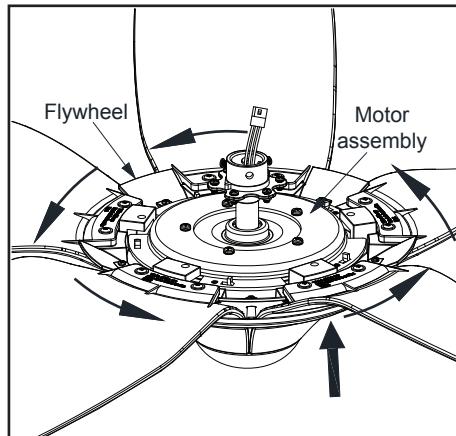

Figure 8
2. Put the fan motor assembly inside the flywheel, engage the fan motor assembly with tabs onto the flywheel by turning clockwise till the screw holes on the fan motor assembly align with the holes on the tab of flywheel.(Figure 8)